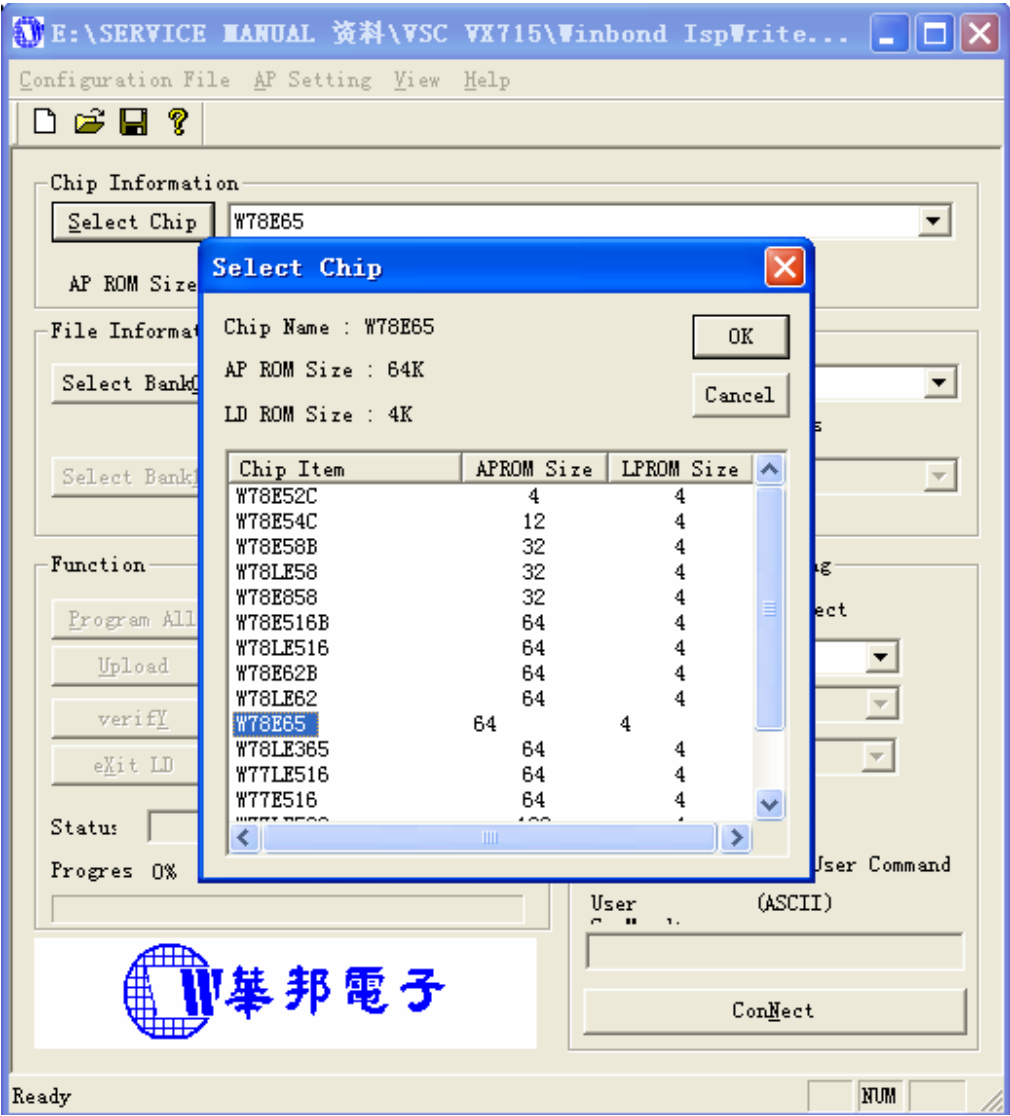
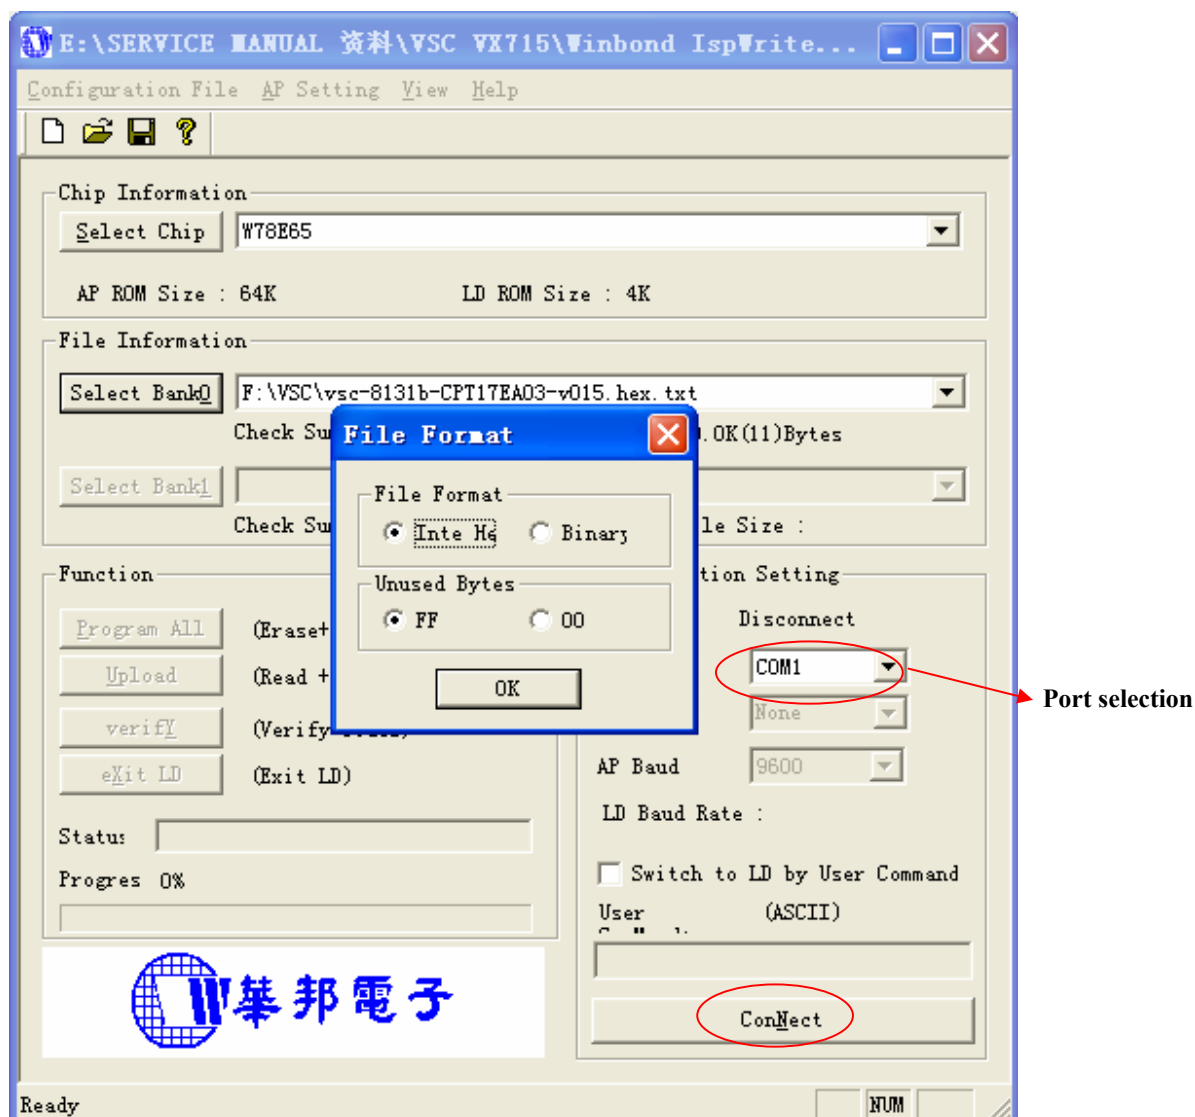

Figure 1
Figure 2
3. Open “8051IspWriter.exe” program in PC, click ”Select Chip” to select the type of the MCU:”W78E65” (see figure 1), then click “Select Bank0” to select the relevant firmware: vsc-8131b-CPT17EA03-v015.hex, and select the right file format “inte He” (see figure 2).